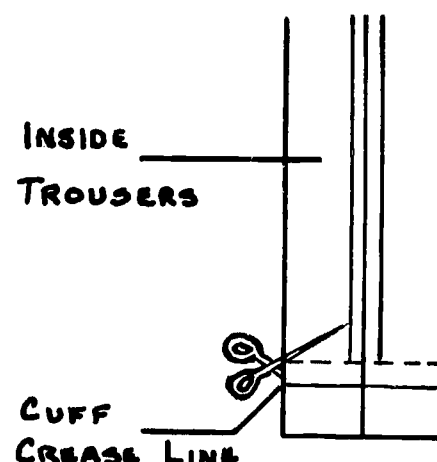

Figure 65.
3. Unfold the cuffs and cut them off just above the stitches holding the hem in place (see Figure 65).